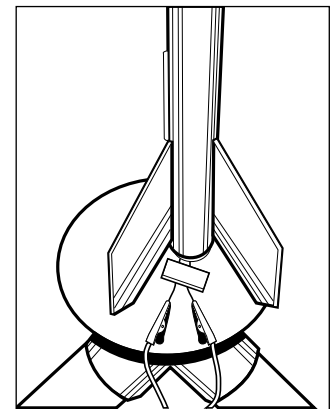

Figure 5
3. Remove the Launch Key from the Supervisor Module to prevent accidental ignition of the rocket engine. Connect the two alligator clips on the Launch Module to the igniter leads on the rocket (Figure 5).